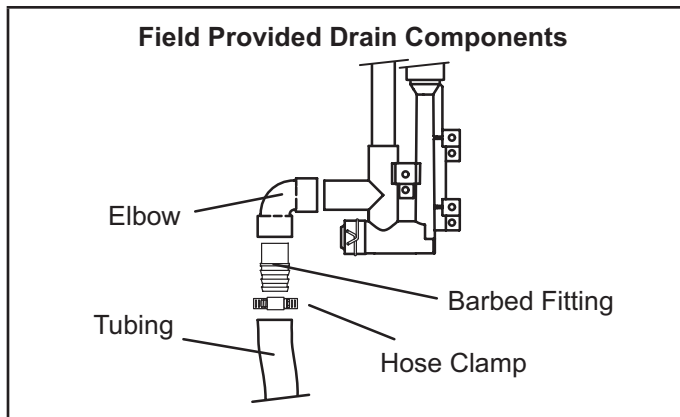

**FIGURE 39**
This unit is designed for either right- or left-side exit of condensate piping in upflow applications. In horizontal applications, the condensate trap must extend below the unit. An 8" service clearance is required for the condensate trap. Refer to FIGURE 39 and FIGURE 41 for condensate trap locations. Figure 39 shows trap assembly using 1/2" PVC or 3/4" PVC.
- 3 - Install the cap over the clean out opening at the base of the trap. Secure with clamp. See figure 39.